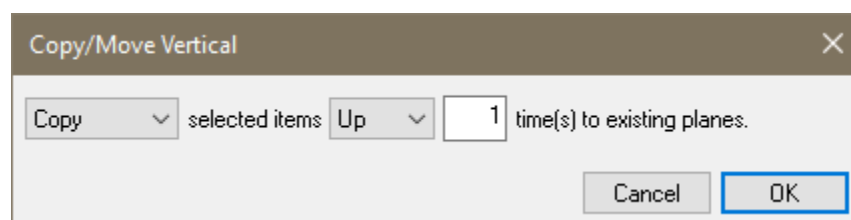

Figure 3-4
- Click on the drop-down box labeled *To* and select *Up*. This will change the *Copy/Move Vertical* window to be as shown in **FIGURE 3-4**.